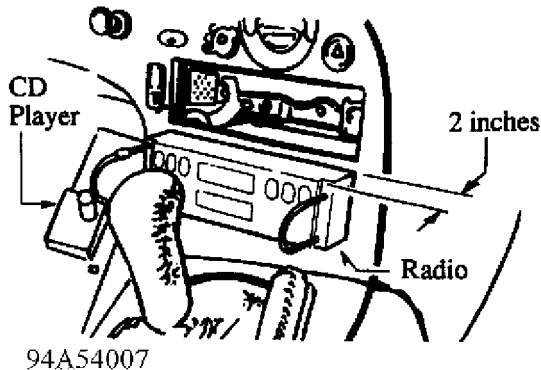

Fig. 5: Radio Disconnection
9. Push the SST into the holes on the sides of the radio until it locks. See Fig. 5.